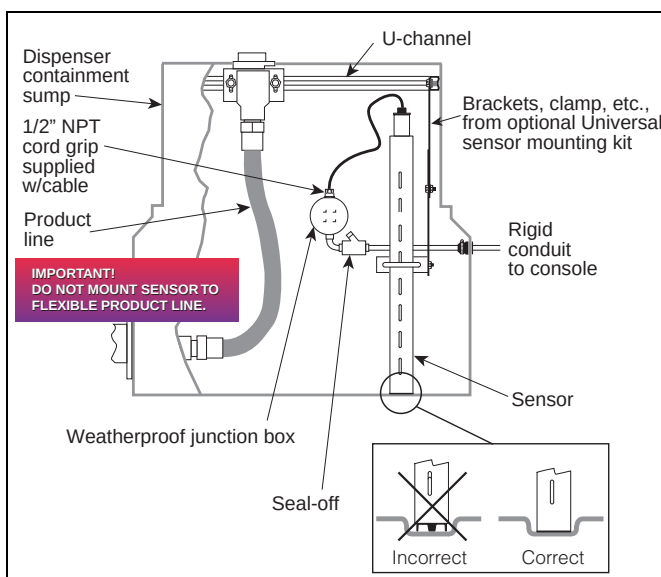

Fig. 2 Example Mag Sump Sensor Installation
- Universal Sensor Mounting Kit (optional) - P/N 330020-012 (see Fig. 2)